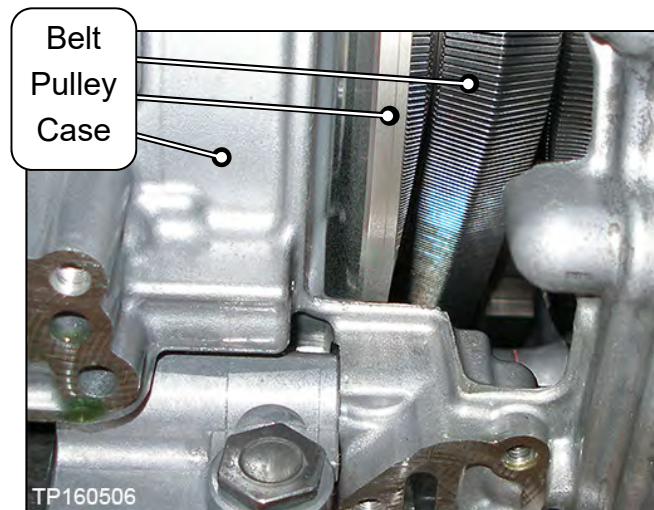
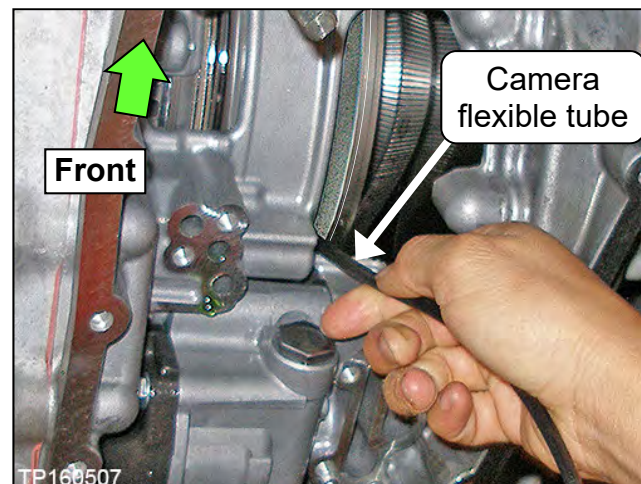

Figure 11
Figure 12
6. Using borescope J-51951 with its mirror attachment, insert the camera lens between the CVT case and pulley where shown in Figure 11 and Figure 12.
- Insert the lens approximately seven (7) inches, and then view the side of the belt that contacts the pulley.